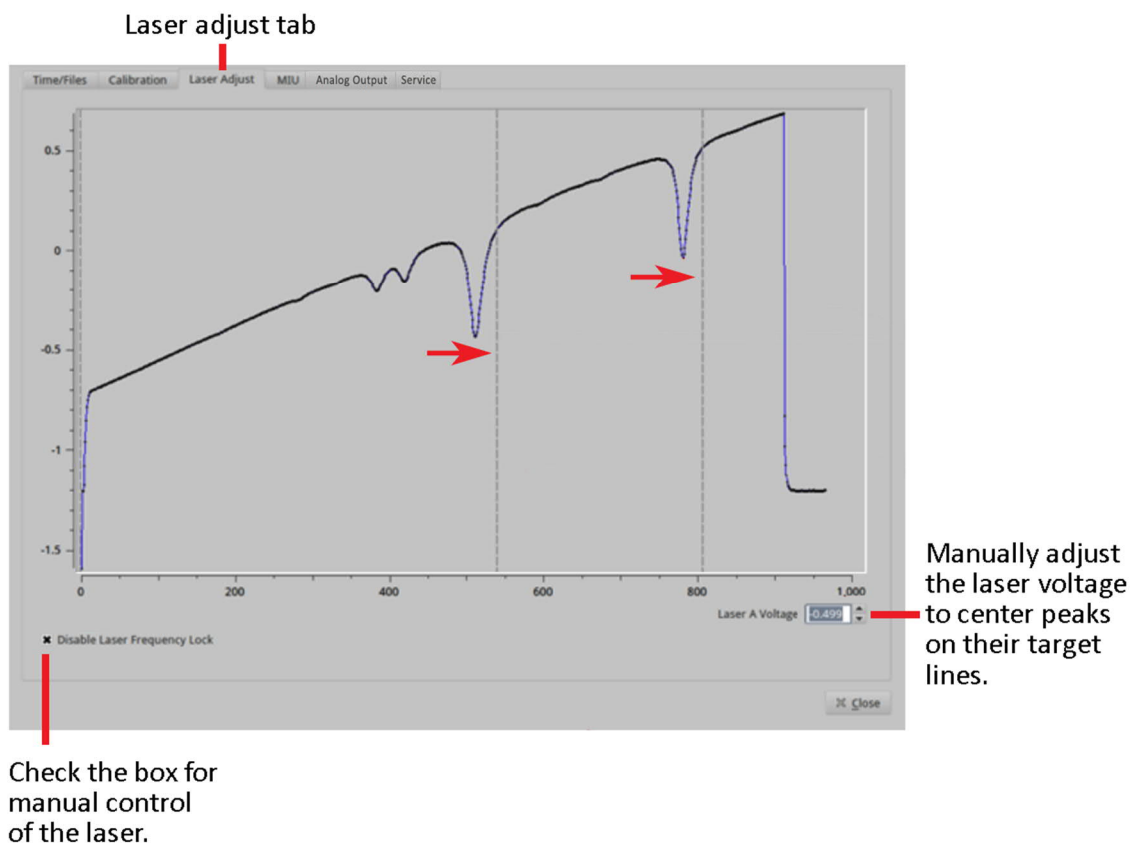

Figure 43: Absorption peaks off of target lines. Laser voltage adjustment needed.
Use the *Laser Adjust* tab to manually adjust the laser's wavelength to compensate for any cumulative drift. (Figure 43)
Figure 43 shows the offset between absorption peaks and target lines for the GLA351-N2OCM. For a 2-laser system, both lasers need adjustment. In a 2-laser system, Laser A is the top plot and laser B is the bottom plot.
2. Select the Laser Adjust tab at the top of the screen. (Figure 43)